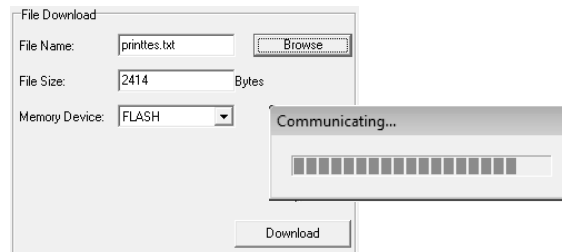

Figure 35. File Download Subsection
5. Once the file is selected, the “File Name” and “File Size” is shown in their respective boxes (see Figure 35).